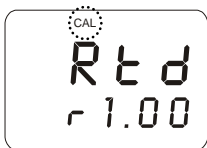

Figure 10: Successful field calibration unlock
3. The “CAL” indicator appears momentarily with the version-model window to indicate that the user-calibration function has been unlocked successfully (Figure 10).